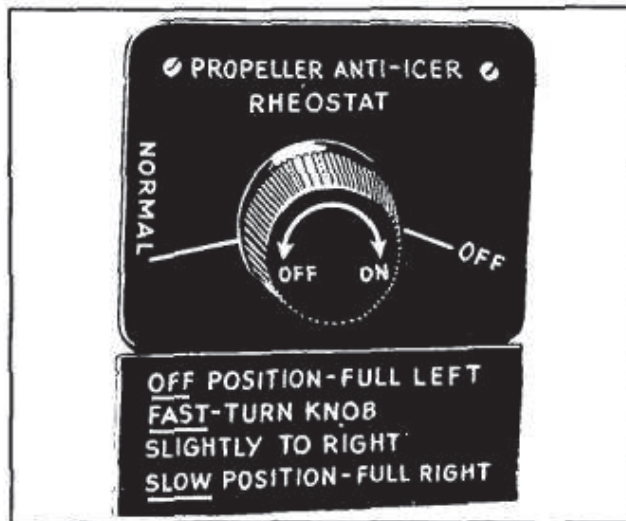

Figure 42—Propeller Anti-Icer Rheostat
(14) Check to see that propeller anti-icer rheostat is turned "OFF." (See figure 42.)